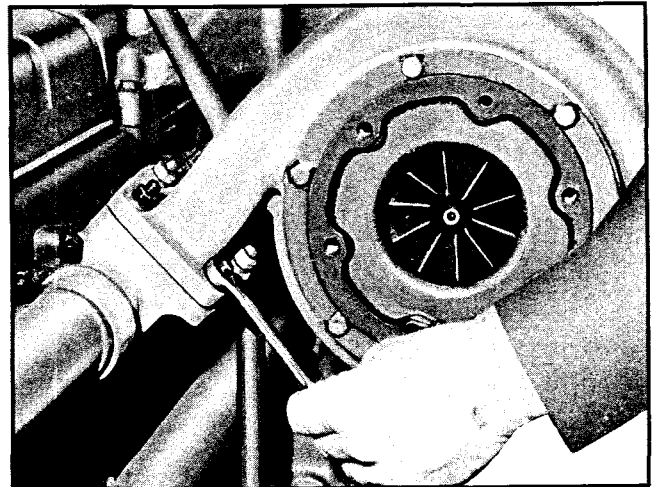

Fig. 4-18. Mounting turbocharger
4. Lift turbocharger into position and secure with capscrews. Fig. 4-18.